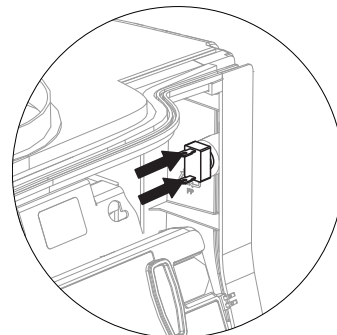

Figure 27. Connect Stop Button
6. Connect wires to stop button (Figure 27).